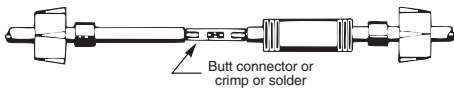

Figure 8
6. Insert wire end into butt connector and crimp (see Figure 8). Be sure to match cable and motor wire colors.